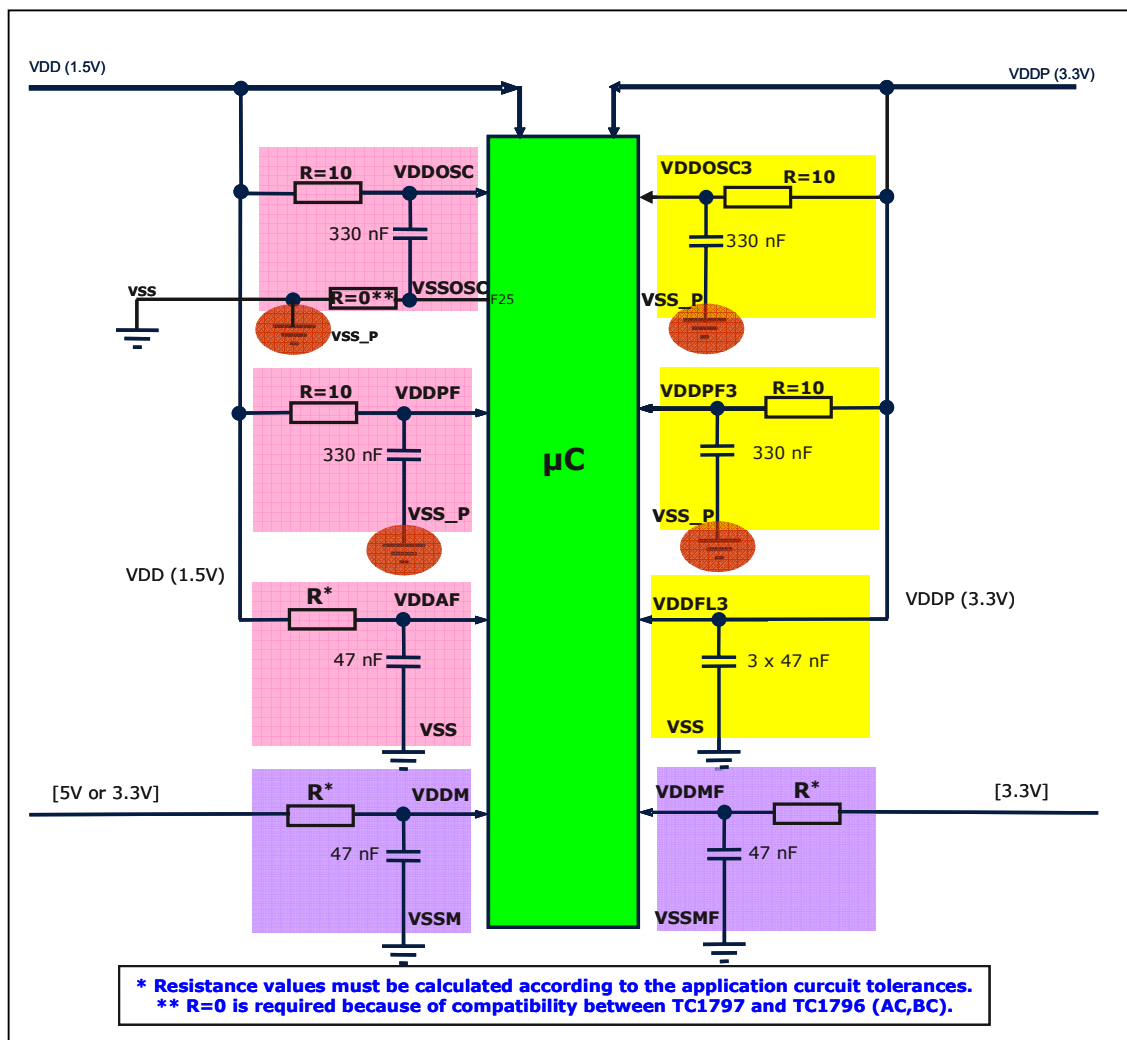

Figure 2 Filtering of VDDOSC, VDDOSC3, VDDFL3, VDDPF, VDDPF3, VDDM, VDDMF, VDDAF supply pins
7	Fig. 2 changed.
- The power distribution from the regulator to each power plane should be made over filters (see Figure 2).
- RC Filters can be inserted in the supply paths at the regulator output and at the branchings to other module supply pins like VDDOSC, VDDOSC3, VDDFL3, VDDPF, VDDPF3, VDDM, VDDMF, VDDAF (see Figure 2). Using inductance or ferrite beads (5 – 10 μ H) instead of the resistors can improve the EME behaviour of the circuit and reduce the radiation up to ~10dB μ V on the related supply net.